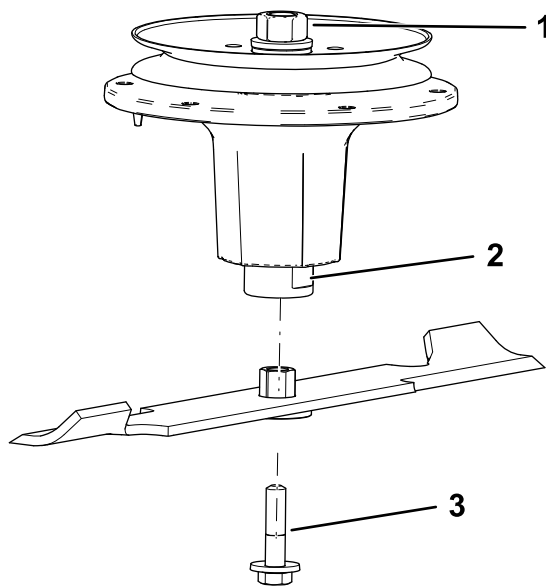

Figure 85
2. Install the bushing/blade assembly into the spindle shaft (Figure 85).